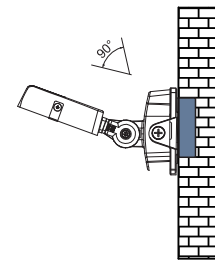

figure 1.10
- Step 3: Loosen the screws. Adjust the fixture angle as per actual demands and then tighten the screws; (figure 1.10)